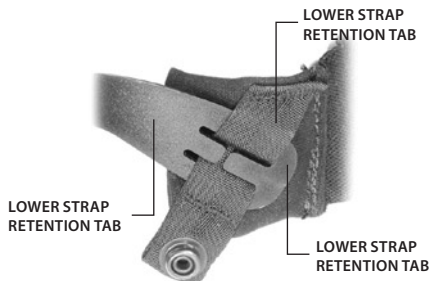

FIGURE 4-6. RE-INSTALLING THE NECK PAD
1. Lift the upper headband strap retention tab (see Figure 4-6). This will allow the neck pad strap to be inserted underneath.